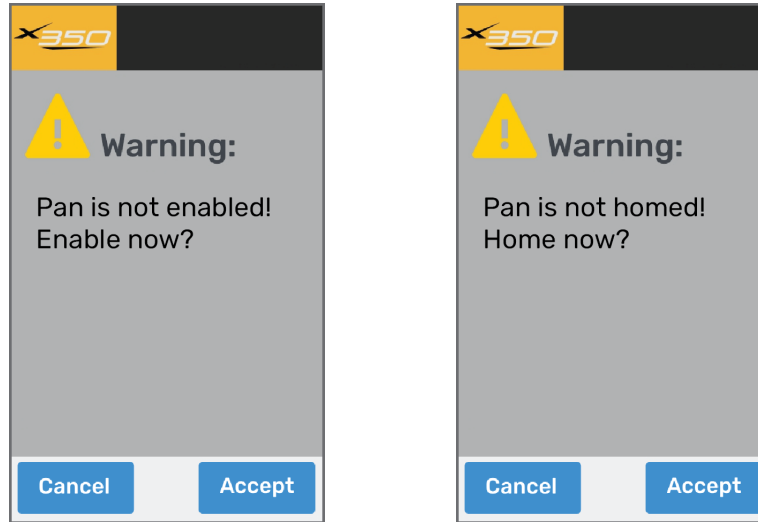

Figure 44 -Warning Messages (Pan is not enabled, and pan is not homed)
4. If warning messages appear, indicating that the axis is not enabled and/or homed, tap **Accept** each time such a message appears (**Figure 44**).